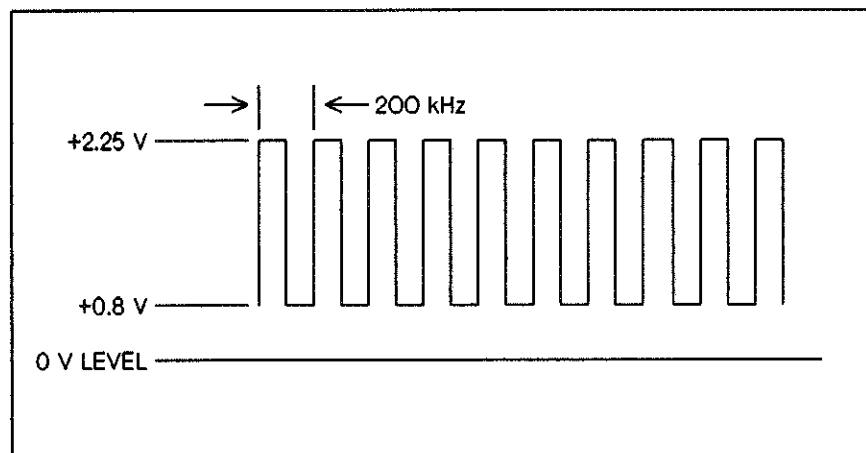

Figure 11-5 Non-Isolated TTL Input Test Signal
13. Set the function generator to output a +0.8 V to +2.25 V peak-to-peak, 200 kHz square wave. The signal is represented in Figure 11-5. If using the recommended function generator, set it up as follows (a 50 Ω output impedance is assumed):